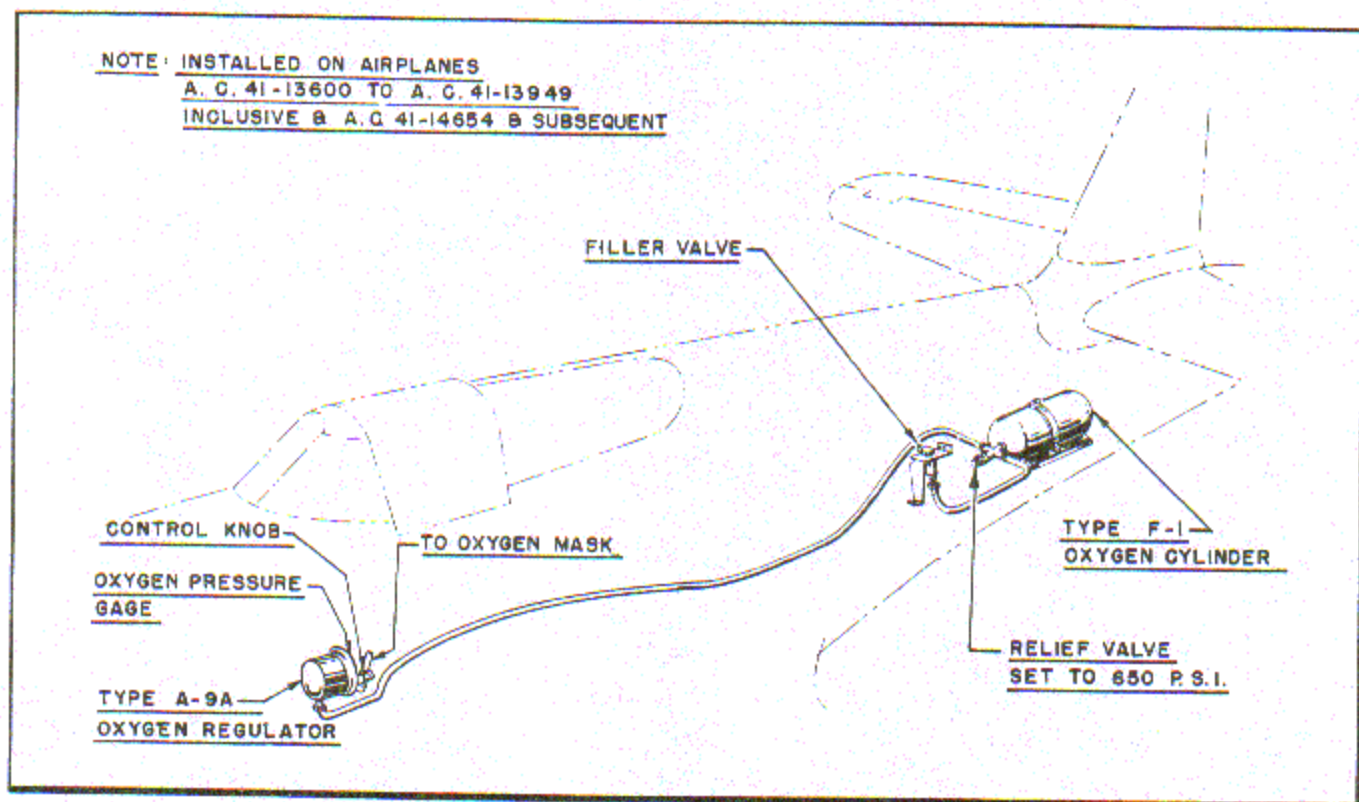

Figure 15 - Oxygen System
(1) For airplanes AC-41-13600 to AC-41-13949 inclusive and AC-41-14654 and subsequent: The type F-1 oxygen cylinder having an internal volume of 1000 cubic inches is secured in a support installation in the aft part of the fuselage. (See figure 15.)